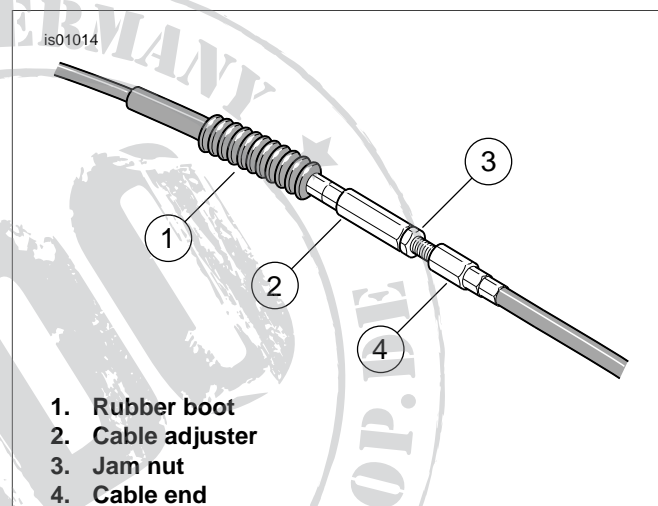

Figure 7. Clutch Cable Adjuster
- See Figure 7. Loosen clutch cable adjuster so clutch cable is fully slack by performing the following:
- Slide rubber boot (1) off cable adjuster.
- Holding cable adjuster (2) with 1/2 inch wrench, loosen jam nut (3) using a 9/16 inch wrench.
- Back jam nut (3) away and turn cable adjuster (2) toward jam nut to introduce a large amount of free play at the clutch hand lever.
- a. See Figure 7. Turn cable adjuster away from jam nut until slack is eliminated at hand lever.